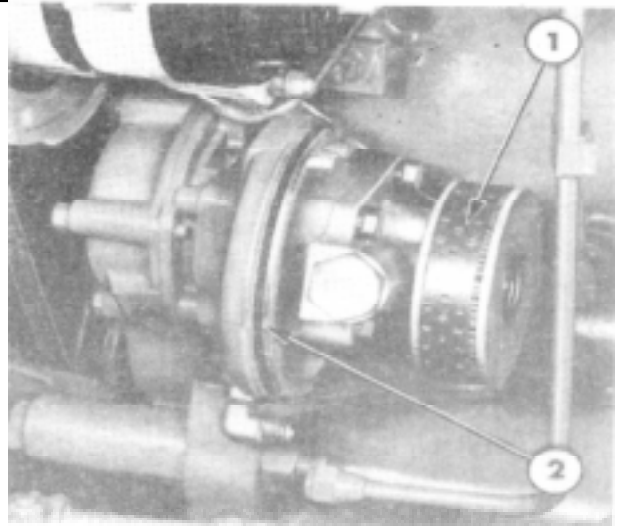

Figure 10
4. Ensure the anti-vibrations clamps are correctly installed as shown in Figure 10.